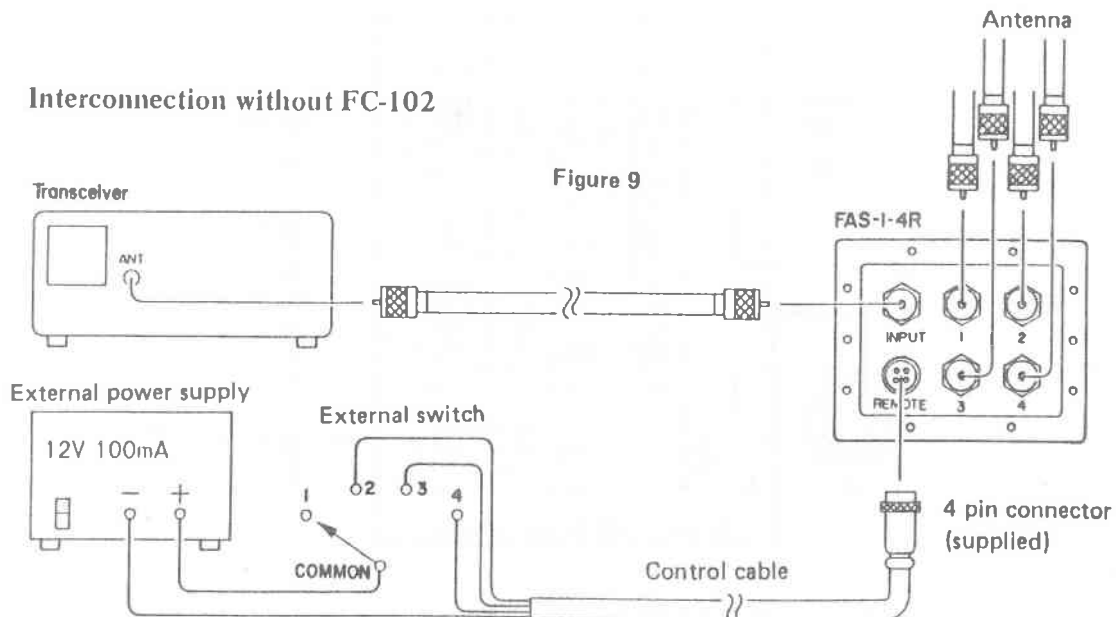

Figure 9
- When 12 V DC at 100 mA is provided, along with a 1P4T switch, the FAS-1-4R can be operated either at the station or a remote location. Refer to Table 2 and Figure 9 for the required interconnections.